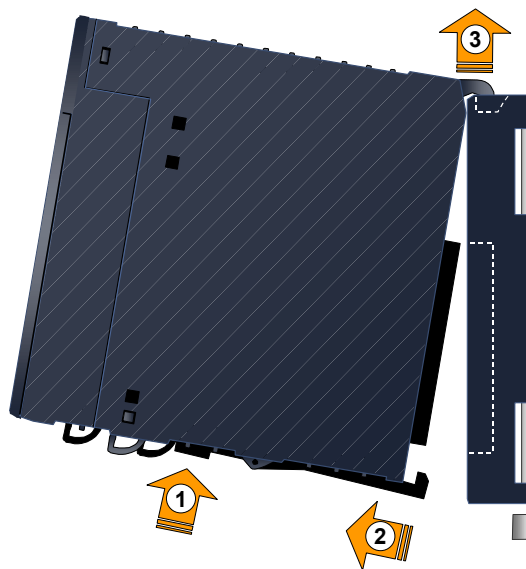

Figure 25: Removing Module from Backplane
- Locate the release lever(s) at the bottom of the module (Figure 25) and firmly press upward (1), toward the module. Wider modules have two release levers that must both be pressed up at the same time.
- While holding the module firmly and fully depressing the release lever(s), pivot the module upward until its connector is out of the backplane (2).